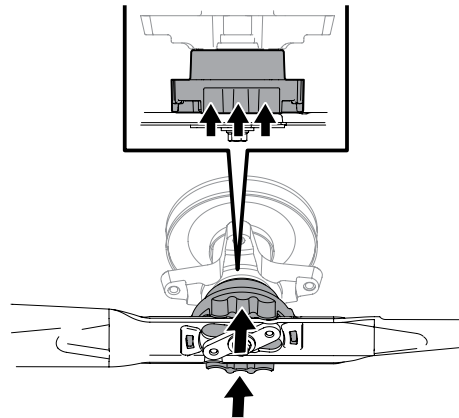

Figure 4-6
3. Push upward on the blade collar and hold it. See Figure 4-6.